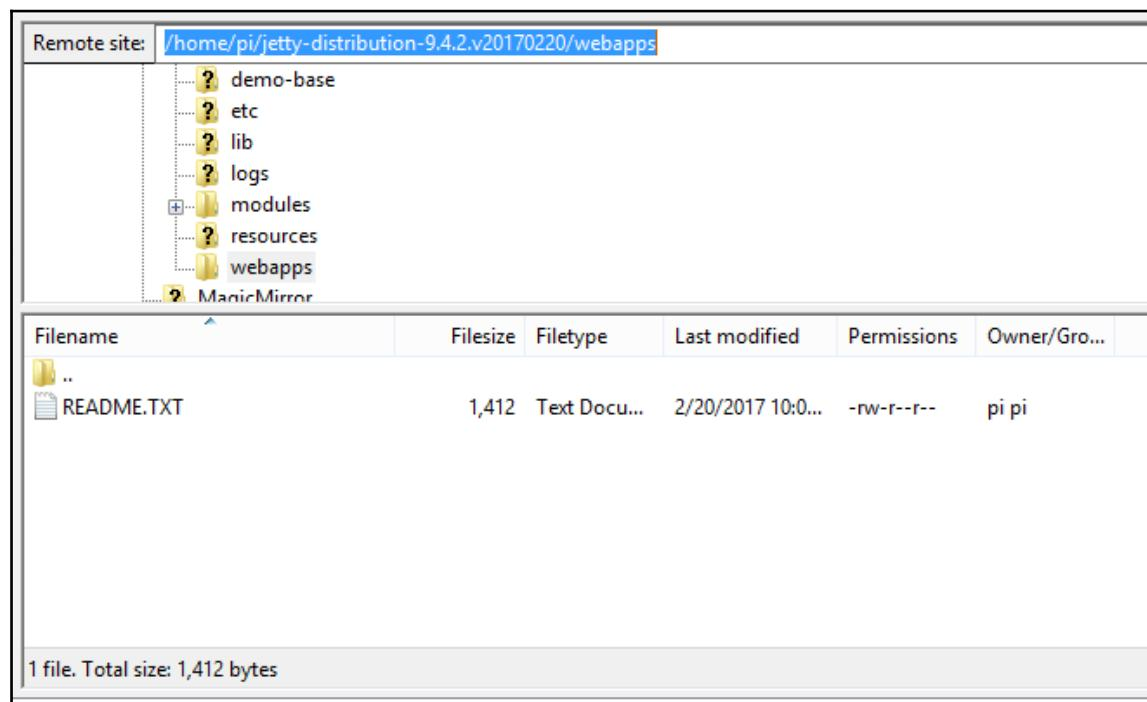

Figure 6-17:web apps directory in Jetty server
2. Browse the `webapps` folder located in `/home/pi/jetty-distribution-9.4.2.v20170220` as shown in Figure 6-17. The `webapps` folder of the Jetty server can be used to host any web application that you would like to run: